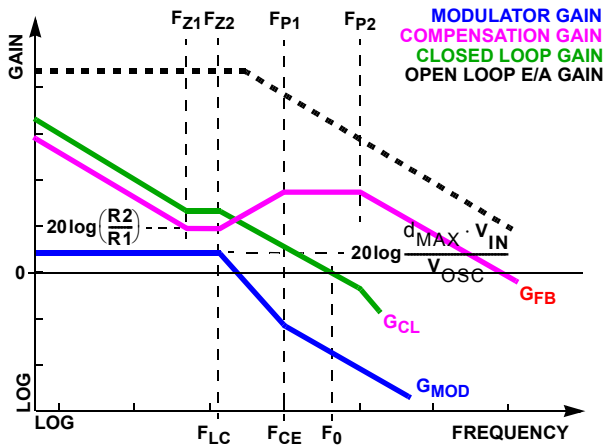

FIGURE 15. ASYMPTOTIC BODE PLOT OF CONVERTER GAIN
Figure 15 shows an asymptotic plot of the DC/DC converter’s gain vs. frequency. The actual Modulator Gain has a high gain peak dependent on the quality factor (Q) of the output filter, which is not shown. Using the previously mentioned guidelines should yield a compensation gain similar to the curve plotted. The open loop error amplifier gain bounds the compensation gain. Check the compensation gain at F_{P2} against the capabilities of the error amplifier. The closed loop gain, G_{CL} , is constructed on the log-log graph of Figure 15 by adding the modulator gain, G_{MOD} (in dB), to the feedback compensation gain, G_{FB} (in dB). This is equivalent to multiplying the modulator transfer function and the compensation transfer function and then plotting the resulting gain.